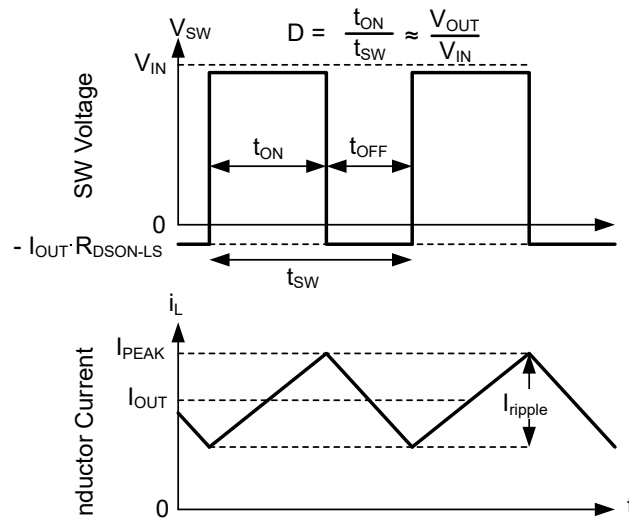

Figure 8-16. SW Voltage and Inductor Current Waveforms in Continuous Conduction Mode (CCM)
The following operating description of the device refers to Section 8.2 and to the waveforms in Figure 8-16. In CCM, the device supplies a regulated output voltage by turning on the internal high-side (HS) and low-side (LS) switches with varying duty cycle (D). During the HS switch on time, the SW pin voltage, V_{SW} , swings up to approximately V_{IN} , and the inductor current, i_L , increases with a linear slope. The HS switch is turned off by the control logic. During the HS switch off time, t_{OFF} , the LS switch is turned on. Inductor current discharges through the LS switch, which forces the V_{SW} to swing below ground by the voltage drop across the LS switch. The converter loop adjusts the duty cycle to maintain a constant output voltage. D is defined by the on time of the HS switch over the switching period: